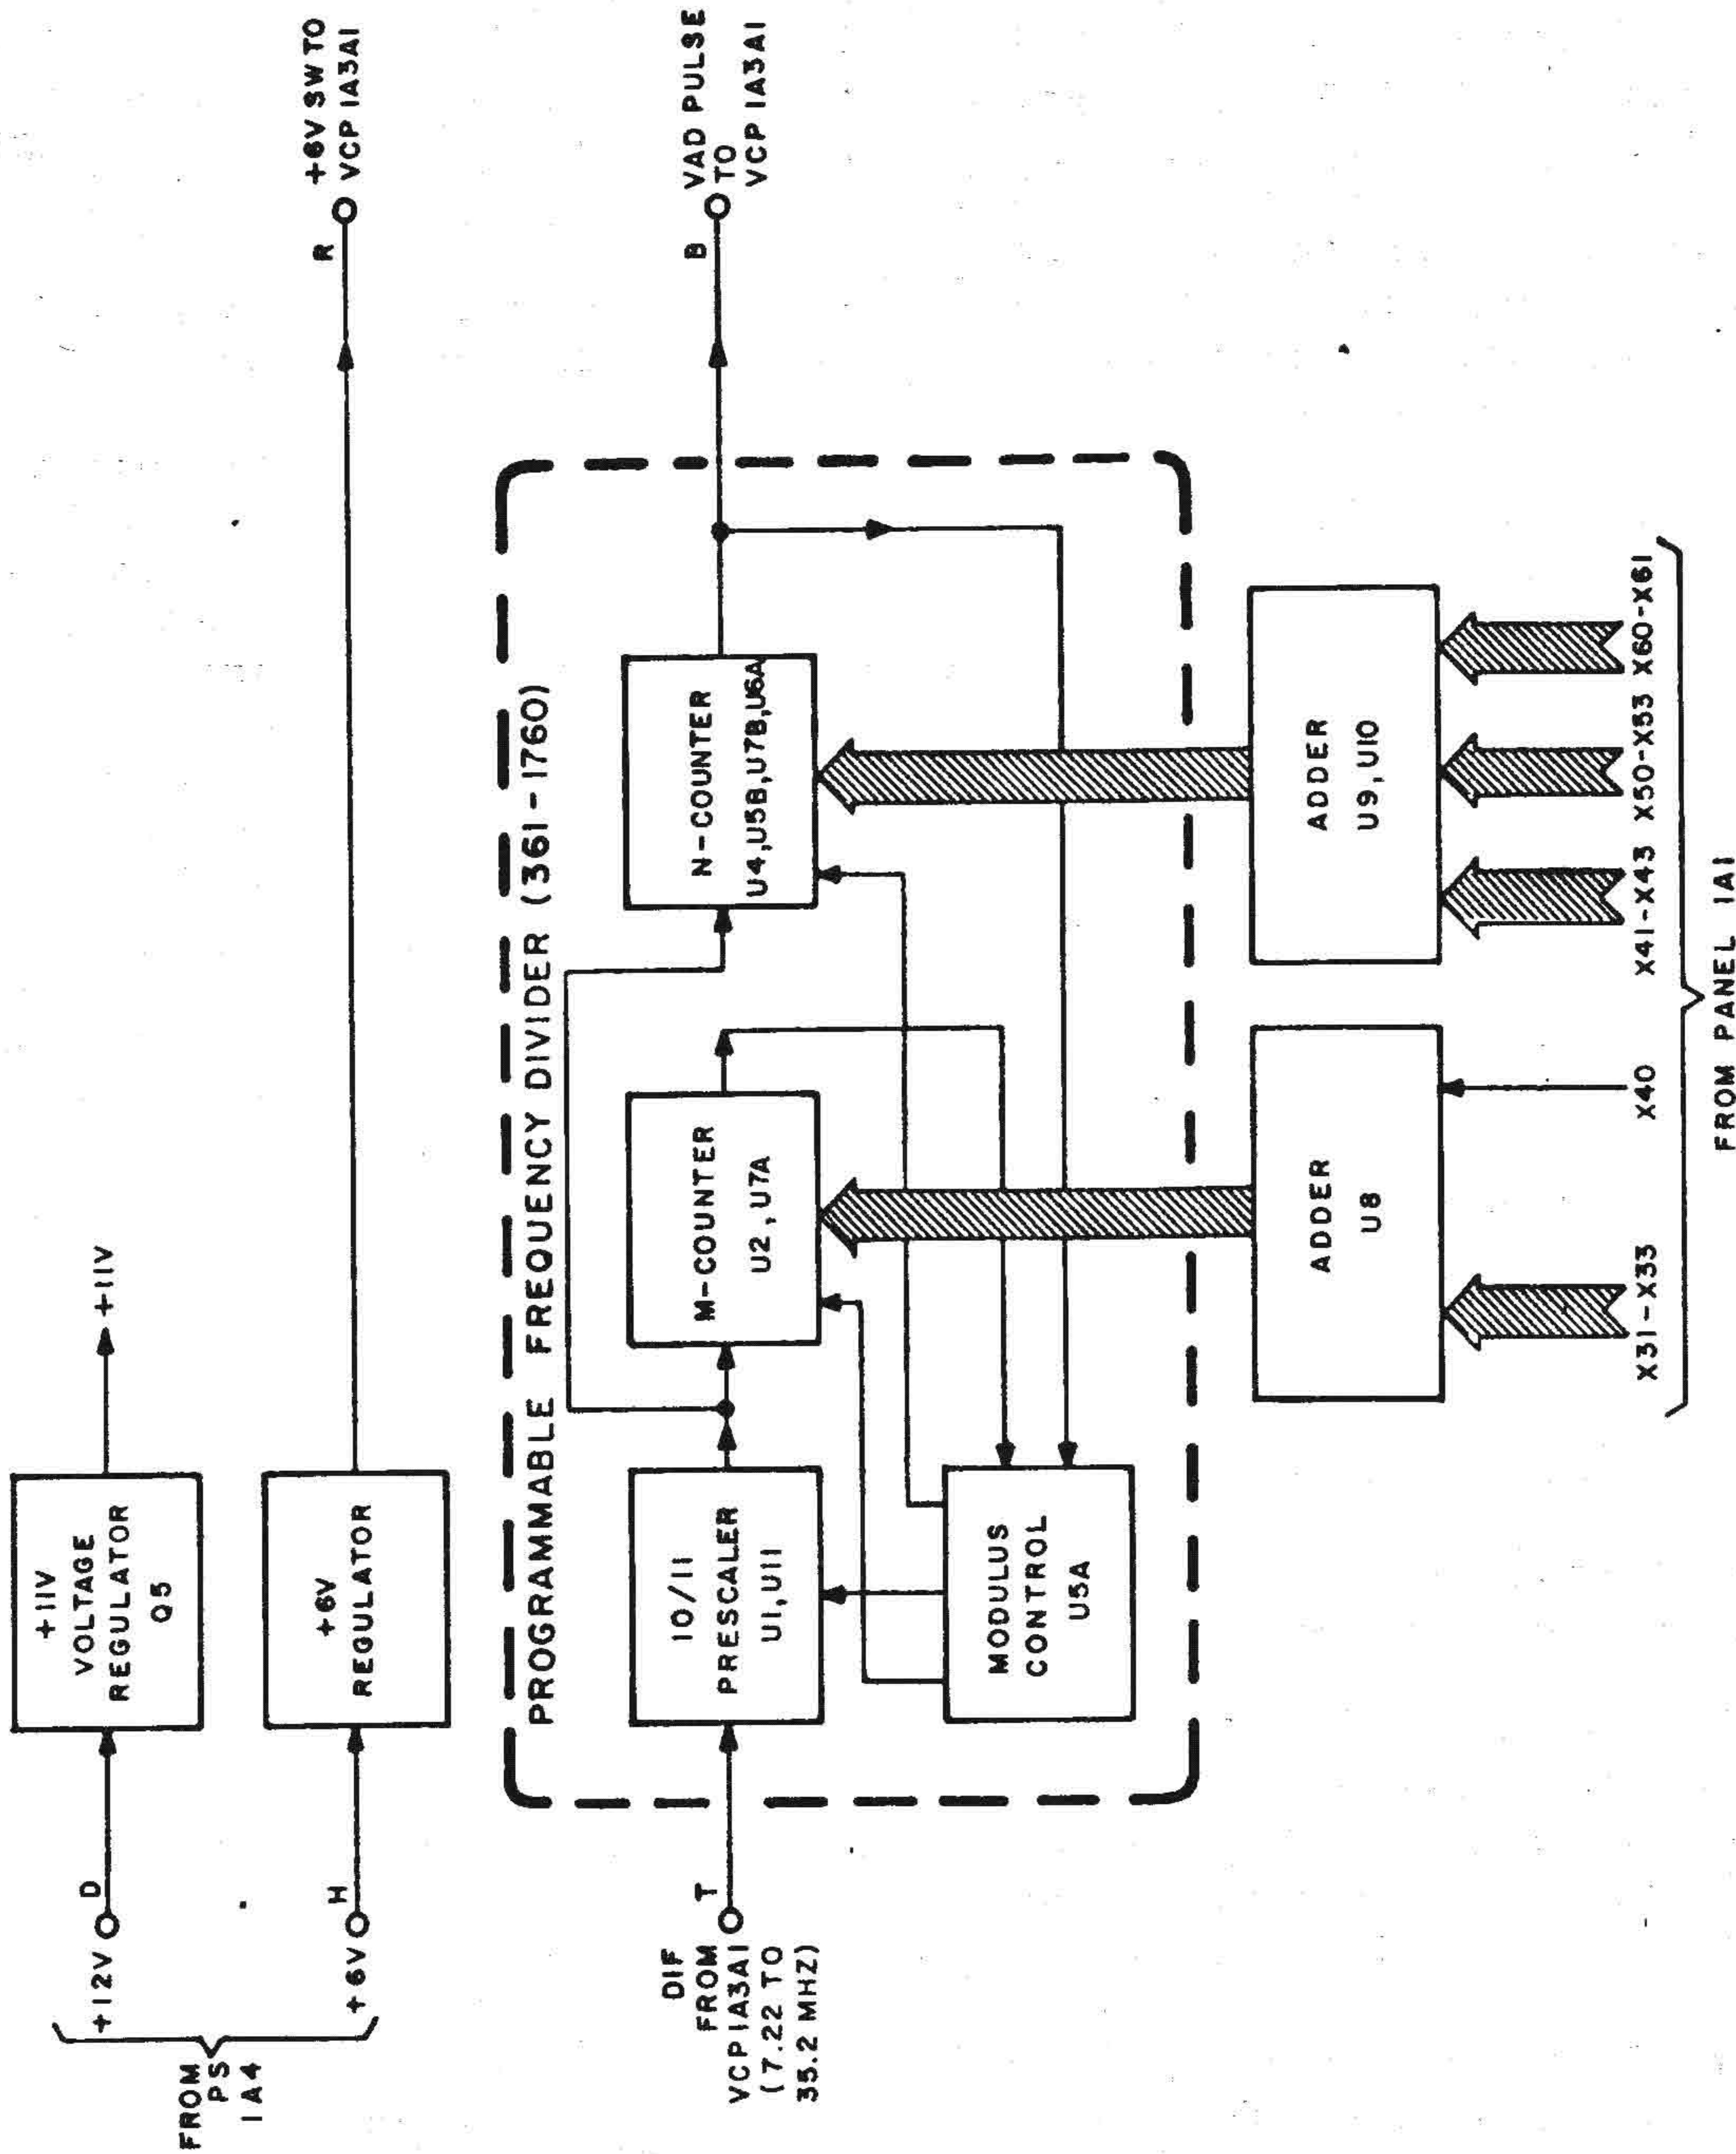

Fig. 2-62. Module VAD 1A3A2, block diagram
2-21. Module VAD 1A3A2 (fig. 2-62, 2-63)
a. Block Diagram Analysis (fig. 2-62). Module VAD 1A3A2 contains the programmable frequency divider, which divides the difference between the VCO output frequency in module VCP 1A3A1 (F1) (refer to para. 2-25) and the output frequency of module SUM 1A3A5. The division ratio is programmed by the digital frequency information. It changes from 361 to 1760 as the output frequency changes from 111.350 to 139.3499 MHz. When the phase-lock loop in module VCP 1A3A1 is locked, the divider output frequency is 20 kHz.
(1) Principle of operation. The technique by which the required division ratio is obtained is known as the "dual-modulus prescaler" technique. In this technique, a frequency divider (called prescaler) whose modulus (division ratio) can be changed from P to P + 1 and vice versa by external commands, divides the frequency of the input signal. Two programmable counters, designated N and M, are connected in parallel to the prescaler output. The division cycle begins with the prescaler modulus set to P + 1. After M pulses (the division ratio of counter M) the modulus is changed to P and remains in this condition for the next N-M pulses (that is, until counter N times out). This signals the end of the division cycle and one output pulse is generated, while the N and M counters are again preset to the
c. Detailed Analysis of Divider Circuit Operation (fig. 2-62). The general description of divider operation will now be integrated with the knowledge of preset information to carry out the analysis of divider operation for any input information (frequency).
(1) M-counter operation. Referring to para b.(2) above, the number of DIF input pulses required to time out the M-counter is calculated as follows: